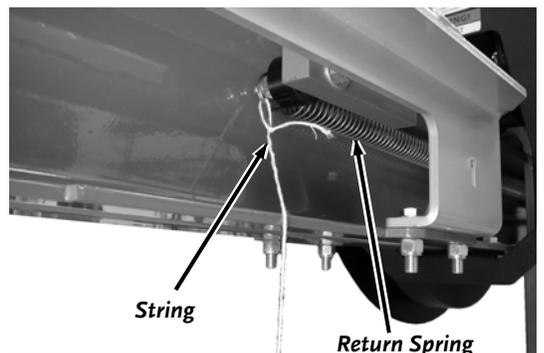

Figure 19
1. Tie a String on the end loop of the return Spring and carefully (due to spring tension) remove the Spring from the Bolt threads and hold the string as you let it retract back under the Belt Guard (**Figure 19**). Repeat for the Spring on the other side of the Frame.
1. Remove the Return Springs as described in step 1 of “Greasing The Rack and Pinion” on page 13 (**Figure 19**).